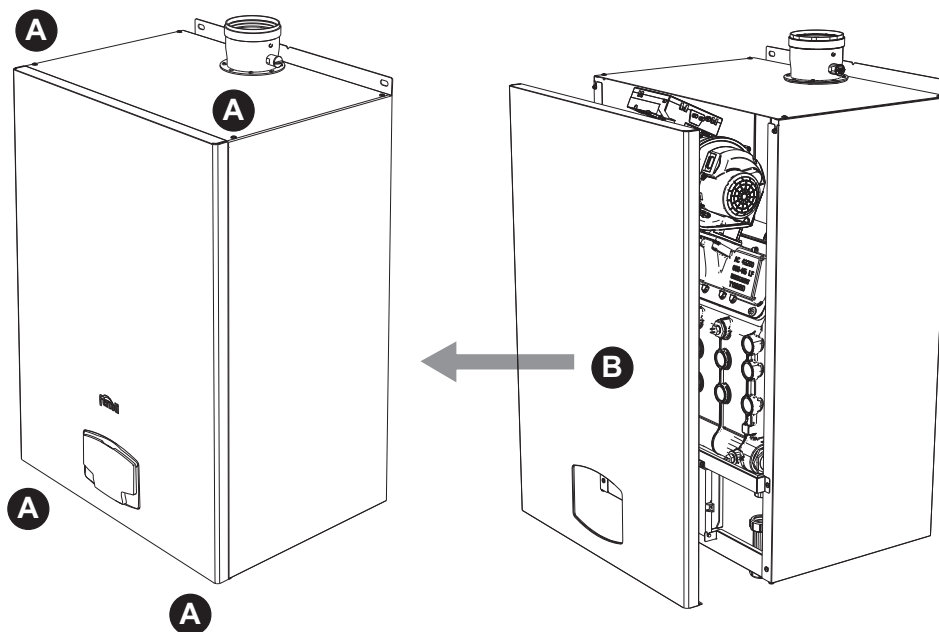

fig. 60- Front panel opening
1. Undo the screws **A** (see fig. 60).